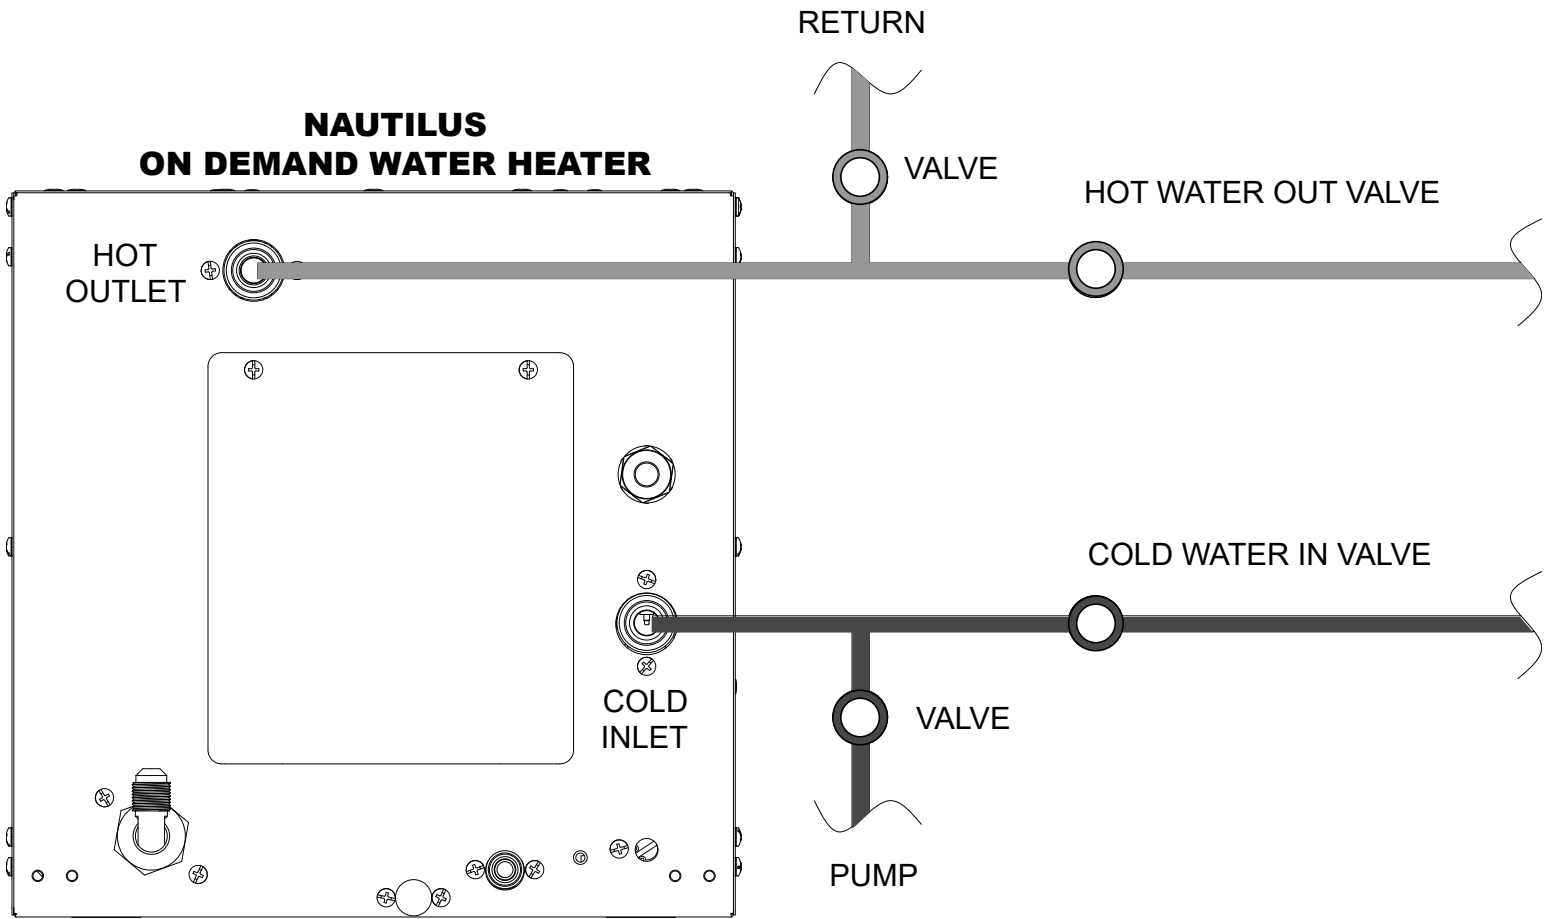

FIGURE 1
- a. Figure 1 shows plumbing schematic for the decalcification system without a bypass valve system.